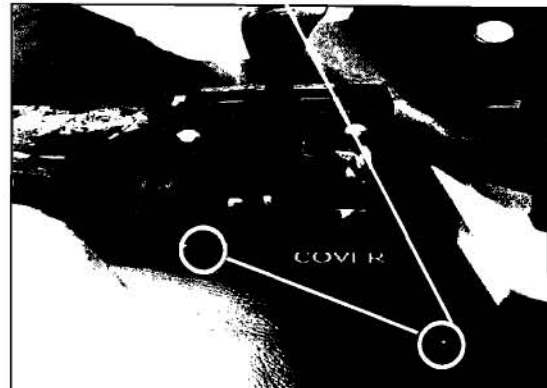

Figure 4
B) **Figure 4** - Remove the four tower side cover screws.